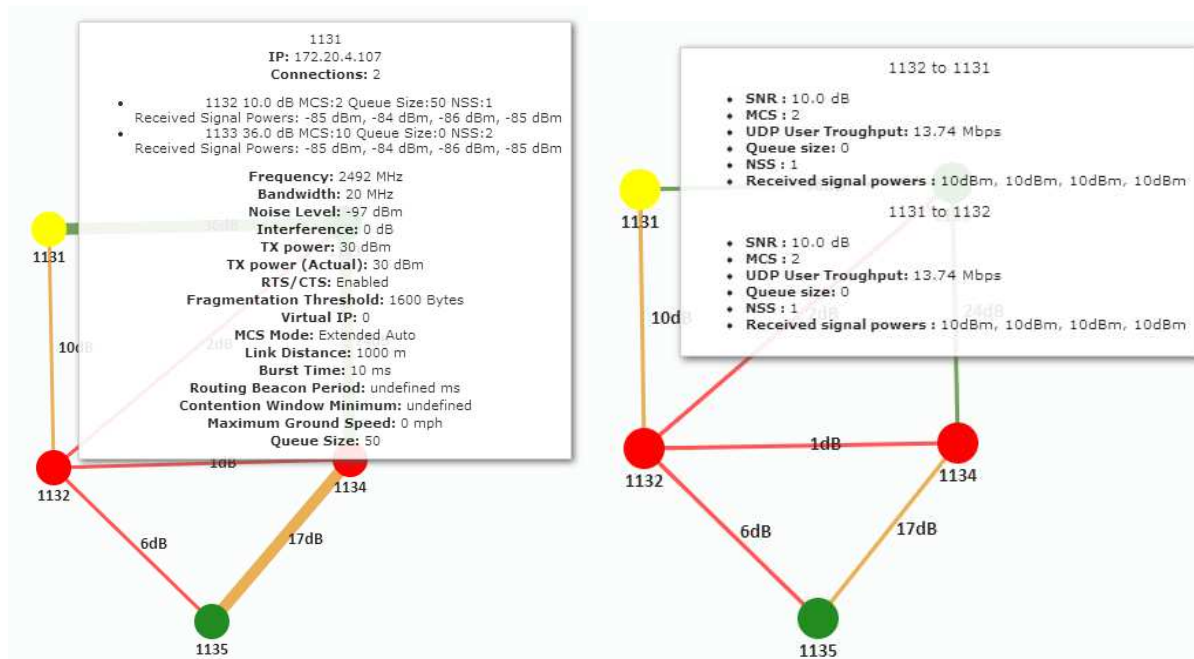

Figure 29 Individual Node Characteristics (Left), Link Characteristics (Right)
- Individual Node Characteristics** – By simply rolling the mouse over any node in the network, users can view key operating characteristics of the node. **Figure 29** shows an example of this for node ‘1131’. The characteristics shown are:
- Link Characteristics** – By simply rolling the mouse over any link in the network, users can view key operating characteristics of that link. **Figure 29** shows an example of this for the link between node ‘1131’ and node ‘1132’. The characteristics shown are: